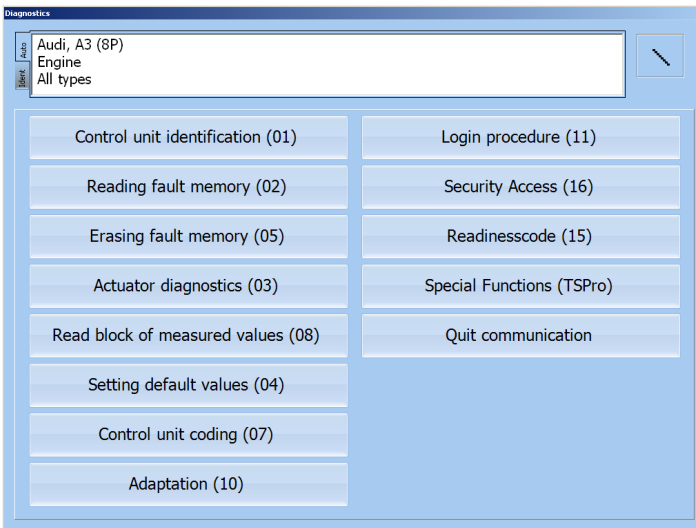

Figure 6.5
You have to start connecting procedure after turning on the ignition and clicking the corresponding button (2). Then, if the connection was successful, a Diagnostic menu appears (Figure 6.5). The actual Diagnostic menu may vary depending on the system type, manufacturer or year of manufacturing. In the following text we will describe individual diagnostic function that may appear.